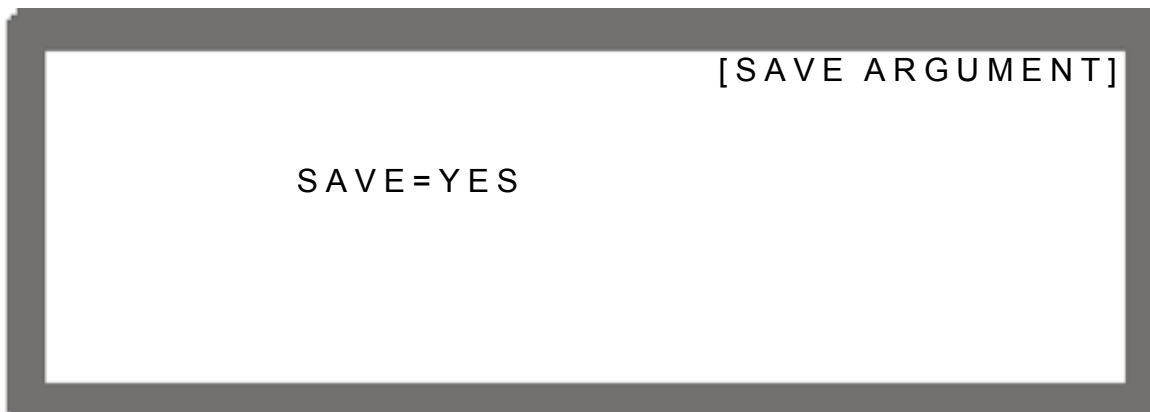

Figure 3-102
9. Now the voltage calibration is done. To save the calibration data, press “” will prompt a confirmation page as Figure 3-102 shows, press “” to save it. Press “” to return to MAIN PAGE.